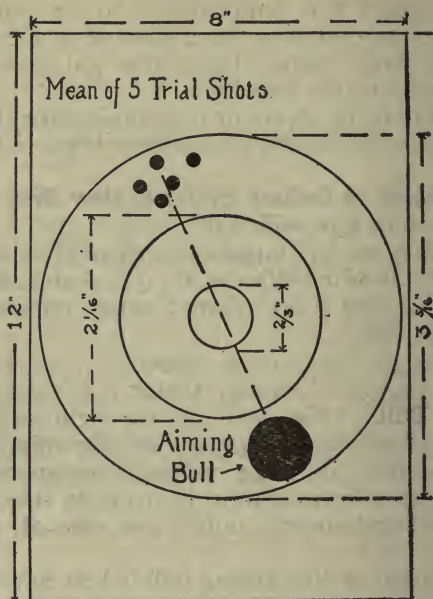

FIG. 20.—Example of Aiming Bull for Target X.
**Aiming Bull.** (Fig. 20.) As the sight on the Model 1903 rifle allows for drift, jump and elevation with service ammunition, in using reduced ammunition at reduced ranges, allowance must be made by substituting an aiming bull underneath, and to one side of, the actual bull.